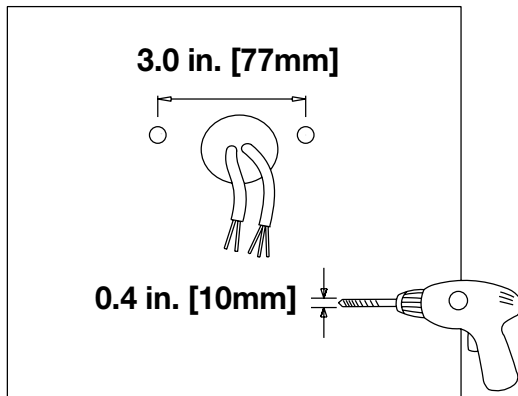

FIGURE 12
- Drill holes on the wall as shown. (Figure 12)